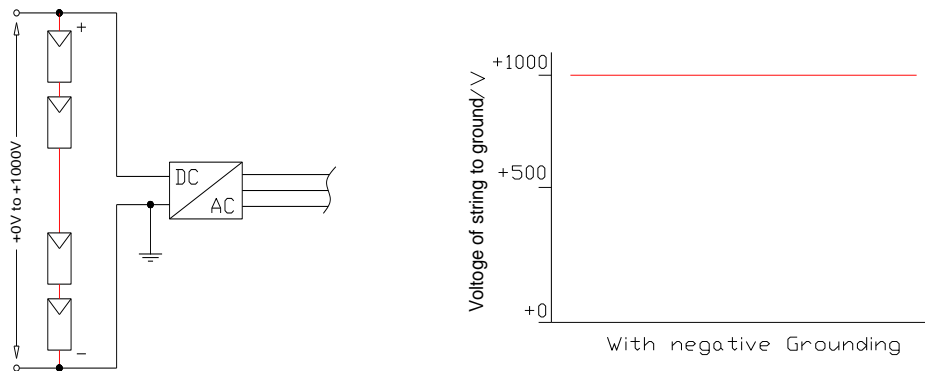

FIG 9 Schematic diagram for grounding potential of the inverter
- ✚ All module frames and mounting racks must be properly grounded. As shown in FIG 9-a. The grounding wire must be properly fastened to the module frame to assure good electrical contact. Use the recommended type, or an equivalent, connector for this wire.
- ✚ UNIVERSAL recommends to install modules at the temperature from -40°C to 50°C , and the relative humidity should be less than 85RH%. Besides, the ultimate temperature of working is from -40°C to 85°C . If the modules are used in high-temperature and high-humidity environment, UNIVERSAL requires the customer to ground the negative end of the inverter (as shown in FIG9). Offset Box or PID Box can also be used instead to apply a positive voltage to the module arrays at night to avoid PID.